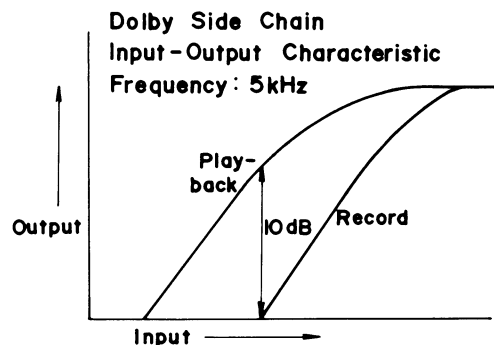
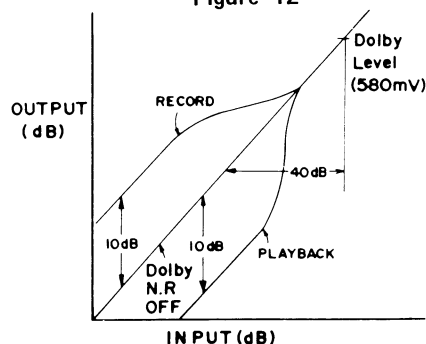

Figure 11
Figure 13
The Fig. 11 shows the input/output characteristic curve of the Dolby Side Chain circuit and the curve varies according to the change of frequency.
If the output signal from Dolby Side Chain circuit shown in Fig. 11 or 12 and ordinary signal from the amplifier circuit (B) are supplied to the Dolby Summing (E) circuit, these two signals are added to the each other in the record mode showing a compressor characteristic while they are subtracted from the each other in play mode showing an expander characteristic — the input/output characteristic shown in Fig. 13 is obtained at Rec. Amp. terminal.